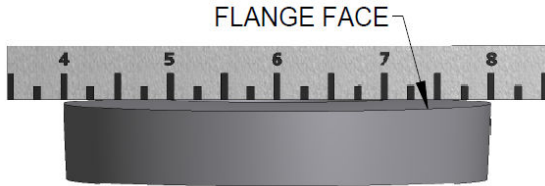

Figure 3 - Measuring for Flatness
5. Check to make sure the gasket faces of the assembly are flat by placing a straight edge across the face. If faces are not flat, holder is not suitable for use (See Figure 3).